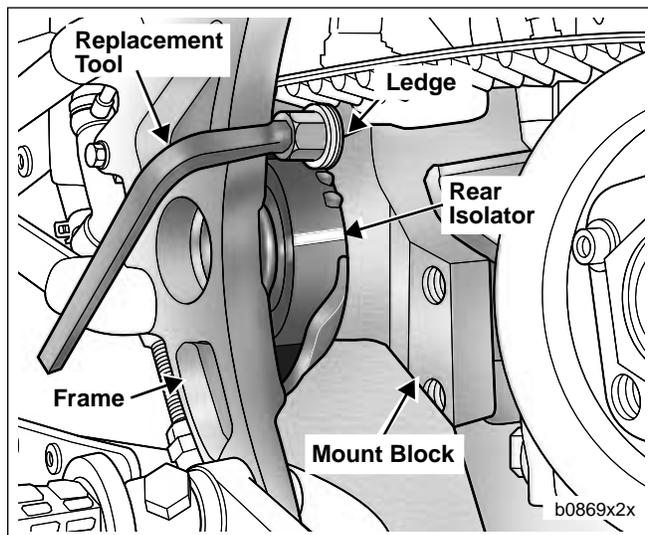

Figure 4. Rear Isolator Replacement Tool In Use
12. See Figure 4. Working on the right side first, insert the rear isolator replacement tool between mount block and frame. NOTE: Ledge on tool should engage top of mount block.
4. See Figure 4. On right side of motorcycle, insert rear isolator replacement tool between mount block and frame.